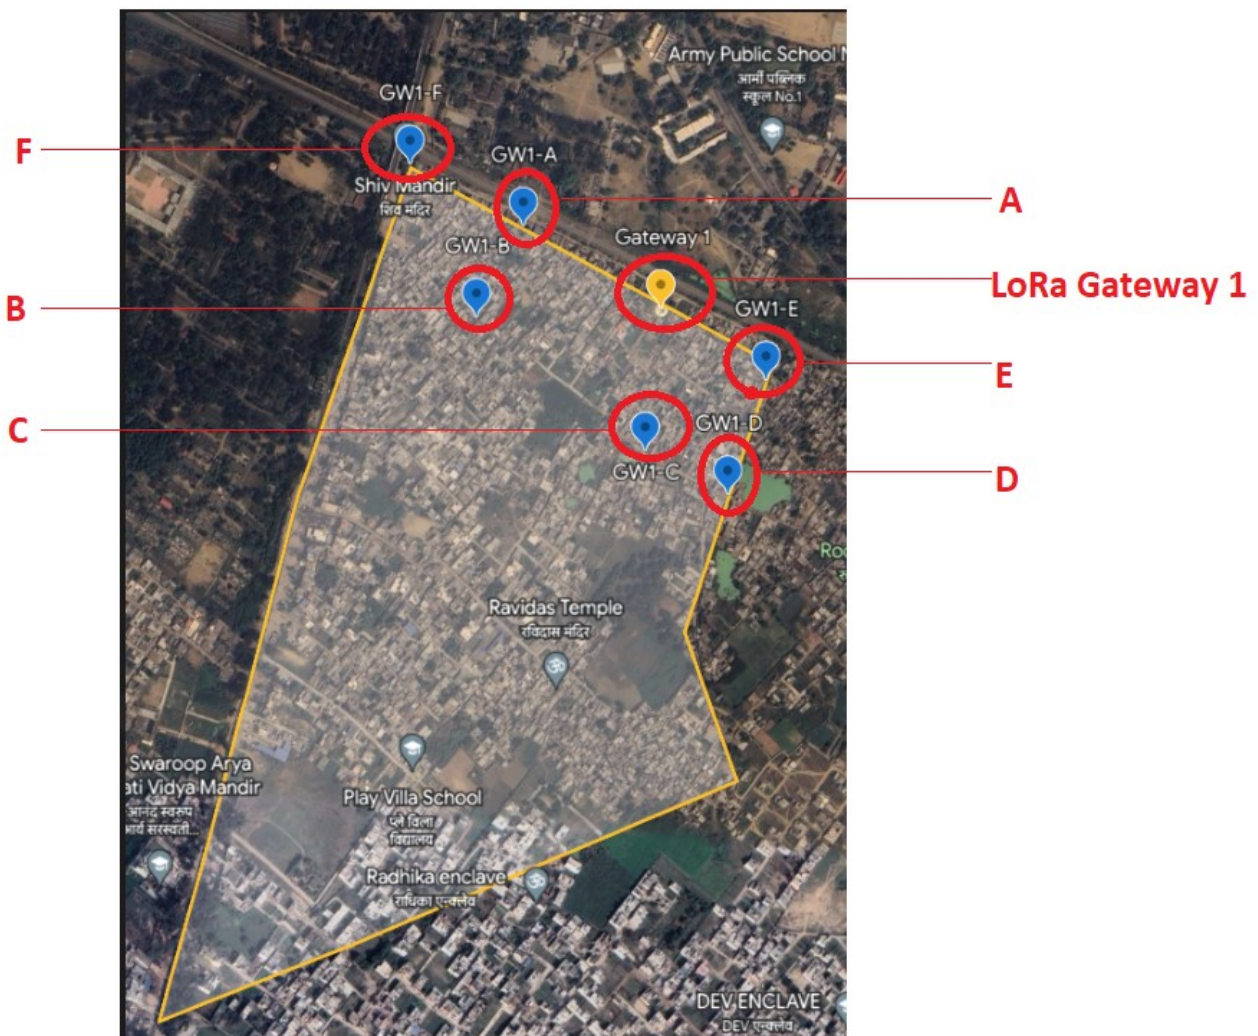

Figure 11: LoRa Gateway #1 Test Points
- During the RF site survey, we placed the LoRa gateway #1 at mentioned location (Figure 11) to cover test points (A to F) water AMR devices locations.